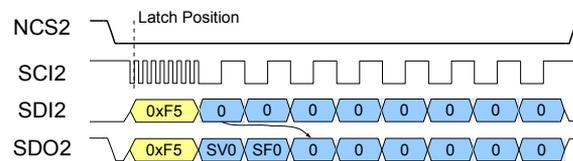

Figure 33: SDAD status
For compatibility issues with other iC-Haus products using this SPI protocol the opcode SDAD status is supported, i.e. sensor data can be requested using the opcode **SDAD status**. Each iC-RZ has one SVALID (SV) register to signal the end of conversion and one SFAIL (SF) register to signal a failing sensor data request. If iC-RZ is connected directly to the SPI master the SVALID (SV0) and SFAIL (SF0) bits are placed at bit positions 7 and 6 in the SVALID byte as shown in Figure 33.